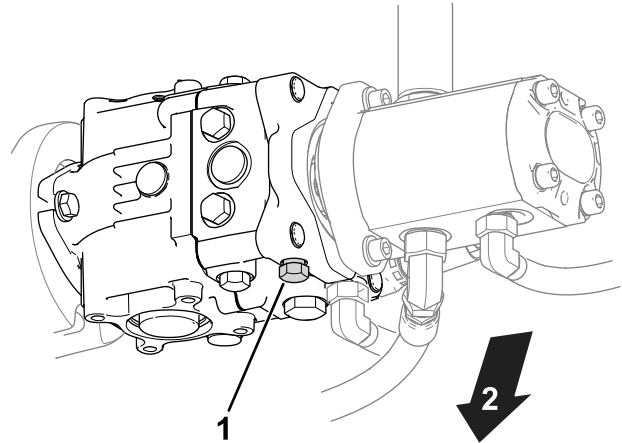

Figure 30
1. Locate the bypass valve on the pump (Figure 30).